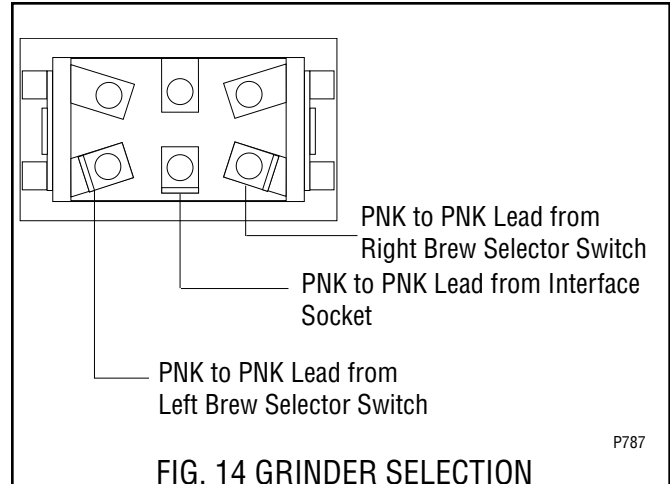

FIG. 14 GRINDER SELECTION
11. Refer to Fig. 14 when reconnecting the wires.